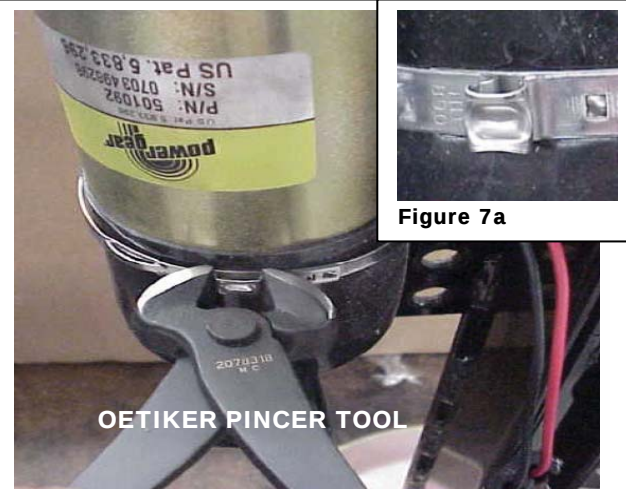

Figure 7
4. Using Oetiker Pincer pliers (readily available via the internet, if not found locally with a tool supplier), crimp the raised part of the clamp until it tightens around the boot (see FIGURE 7). The deformation of the clamp ear provides a visible and instant check that closure has been accomplished (see FIGURE 7a).